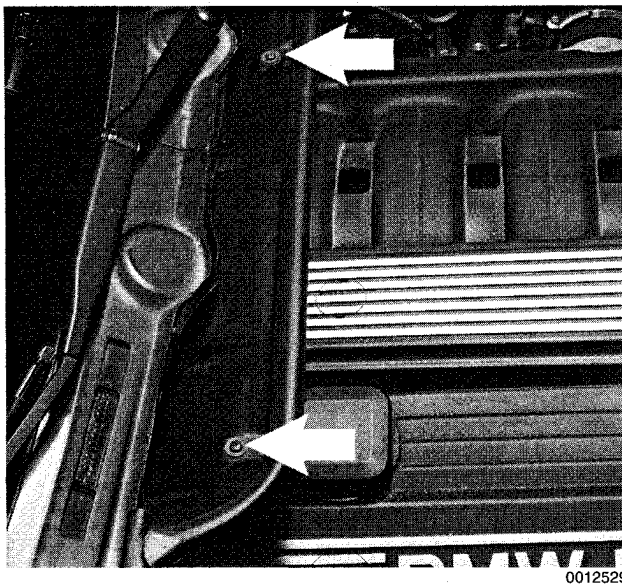

Fig. 2. Wiring harness cover screws at base of windshield (arrows).
3. Remove wiring harness retaining clip at bulkhead. Remove screws retaining wiring harness cover and pull cover forward. See Fig. 2.